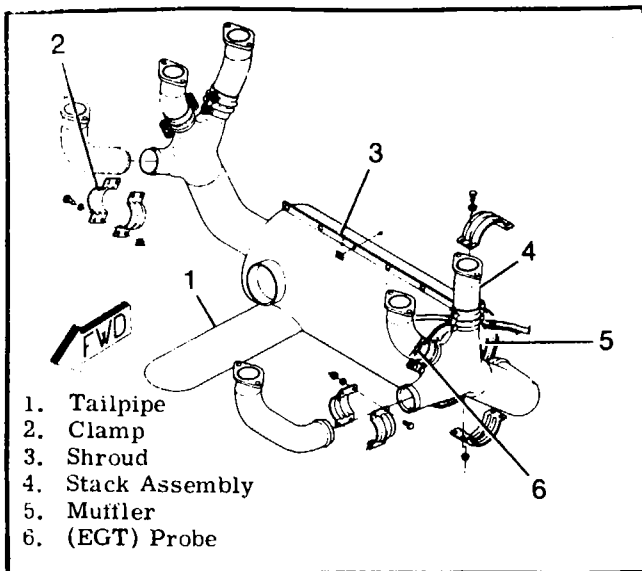

Figure 11-15. Exhaust System.
- b. If installed, remove exhaust gas temperature probe or disconnect leads. (See figure 11-15.)